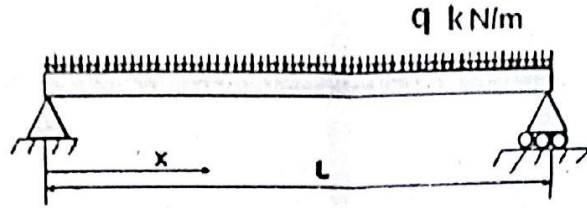

Fig.12(a)
12. (a) Determine the maximum deflection and slope in the beam, loaded as shown in Fig.12(a). Determine also the reactions at the supports. $E = 200 \text{ GPa}$, $I = 20 \times 10^{-6} \text{ m}^4$, $q = 5 \text{ kN/m}$ and $L = 1\text{m}$